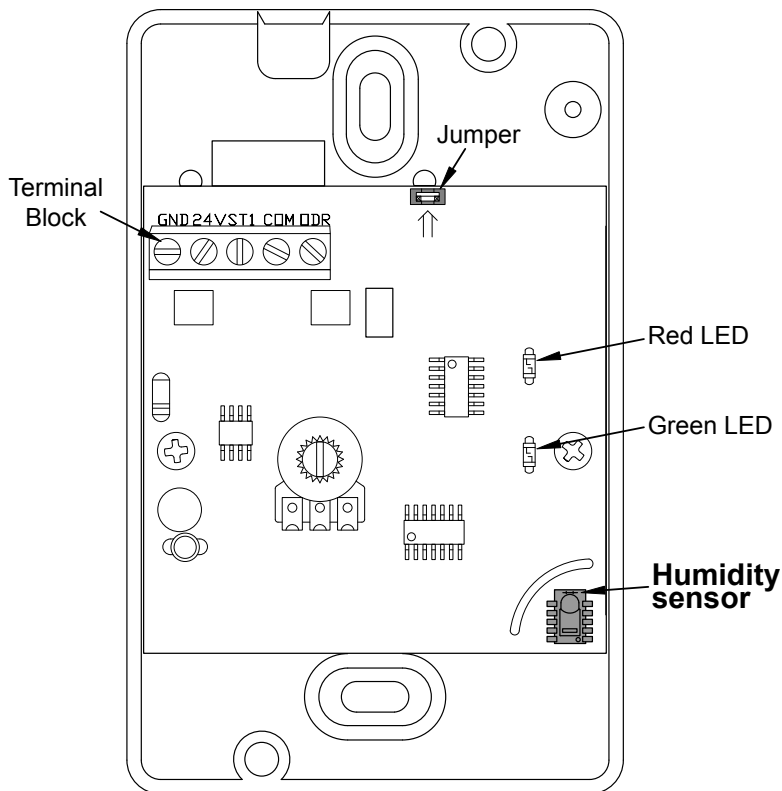
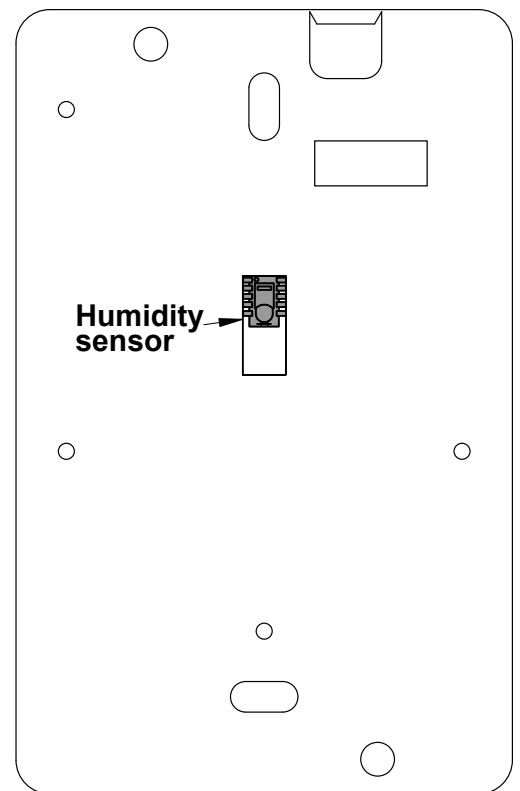

Fig. 1a Wall Mount Humidistat
Fig. 1b Back View of a Duct Mount Humidistat
1.1 The humidity sensor is not located at the same place in a wall mount or in a duct mount humidistat and therefore the two models of humidistats are not interchangeable. Please see Fig.1a and Fig.1b.
Three holes have to be drilled in the duct, two for screws (approx. 1/8" dia.) and one for sensing (approx. 5/8" dia.). The humidity sensor is located in the rectangular opening visible at the back of the humidistat baseplate. This location will prevent potential dust accumulation on the sensor. Please see Fig. 1b.